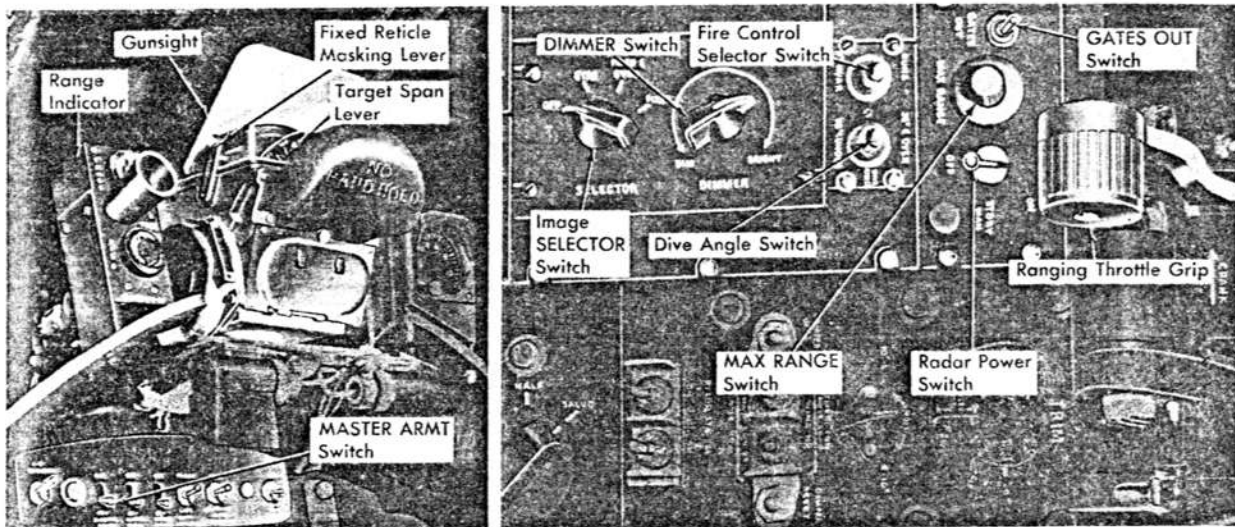

Figure 4-15. Aero 5A Fire Control System Controls
**RANGING THROTTLE GRIP.** A ranging throttle grip (figure 4-15) is an integral part of the left-hand throttle control lever. During manual operation of the fire control system, the grip electrically controls the range dial and gyro image of the sight unit. When the grip is at maximum range position (clockwise), the sight unit gyro is caged.
**TARGET SPAN LEVER.** A target span lever (figure 4-15), located on the aft end of the sight unit, varies the diameter of the gyro reticle image. Prior to attack, the lever must be preset to the approximate dimension of the target aircraft to be spanned.
**FIXED RETICLE MASKING LEVER.** A fixed reticle masking lever (figure 4-15) is located on the left-hand side of the sight unit. Actuation of the lever blanks out the fixed image (except the cross) to simplify the fixed and gyro image pattern.
**RANGE INDICATOR.** A range indicator unit, consisting of two meters and an indicator light (figure 4-15), is mounted on the instrument cowl on the left-hand side of the sight unit. The light is illuminated except when the radar system is tracking a target. Range and system operating indications are displayed by the meters. Target range is indicated on the range meter only while the system is tracking.
**RADAR POWER SWITCH.** The radar power switch (figure 4-15) is located on the left-hand console on the radar set control box. Switch positions are "ON," "STDBY MAN," and "OFF." Placing the switch in "STDBY MAN" holds the radar equipment ready for operation while the mechanical range system is used.
**MAXIMUM RANGE SWITCH.** A MAX RANGE switch (figure 4-15) is located on the left-hand con-
**GATES OUT SWITCH.** The GATES OUT switch (figure 4-15) is located on the left-hand console on the radar set control box. Actuation of the switch disconnects the tracking circuit from the present target signal so that the next farther target in range may be automatically acquired.
**FIRE CONTROL SELECTOR SWITCH.** A fire control selector switch (figure 4-15) is located on the left-hand console on the sight switch box. The switch permits the fire control system to be selected for gun or rocket firing. Switch positions are "GUNS" and "5" HVAR."
**DIVE ANGLE SWITCH.** A DIVE ANGLE switch (figure 4-15) is located on the sight switch box on the left-hand console. The switch permits the fire control system to be adjusted to the dive angle for rocket firing. Switch positions are "35° and OVER" and "35° and UNDER."
**IMAGE SELECTOR SWITCH.** The image SELECTOR switch (figure 4-15) is located on the sight control box on the left-hand console. This rotary switch permits energizing of the sight control system and selects the desired image in the sight unit. Switch positions are "OFF," "GYRO," "FIXED & GYRO," and "FIXED."
**DIMMER SWITCH.** A DIMMER switch (figure 4-15) is located on the sight control box on the left-hand console. This rotary switch varies the brightness of the gyro and fixed images.